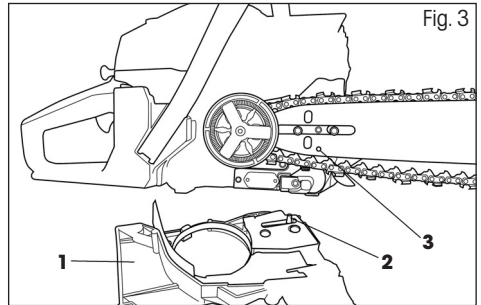
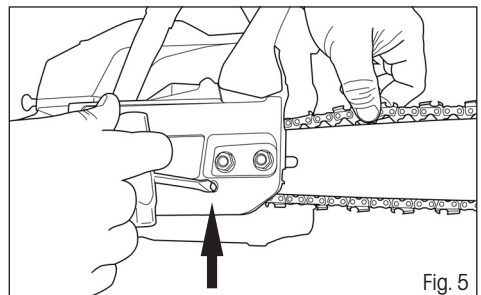

Fig. 3
Fig. 5
- ✿ Loosen two nuts and take off the sprocket cover (Fig. 3, point 1).
⚠ ATTENTION! The chain tensioning pin (Fig. 3, point 2) must fit into the hole in the guide bar (Fig. 3, point 3). The position of this pin can be adjusted using the chain tensioning screw (Fig. 5)
- ✿ Tension the chain using the tensioning screw (Fig. 5) and then tighten the sprocket cover nuts using the included tubular wrench
- ✿ Use a screwdriver to turn the chain tensioning screw (Fig. 5). Turn the tensioning screw until the required tension is achieved (you should lift the chain in the middle of the guide bar in the horizontal position to a height of 3 to 4 mm).